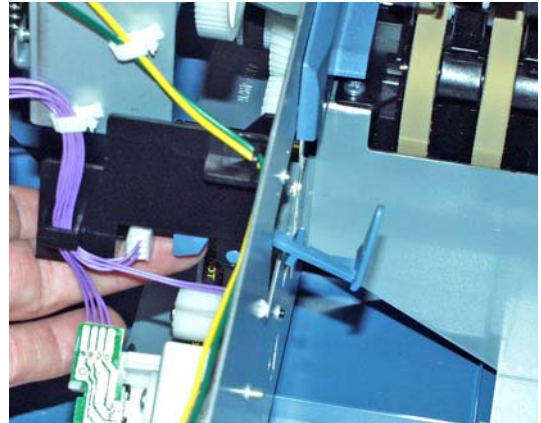

Figure 5-87 Moving the Stack Present Sensor Flag to provide Clearance
4. Before you remove deck assembly, hold down the stacker sensor flag from its back as shown in Figure 5-87.